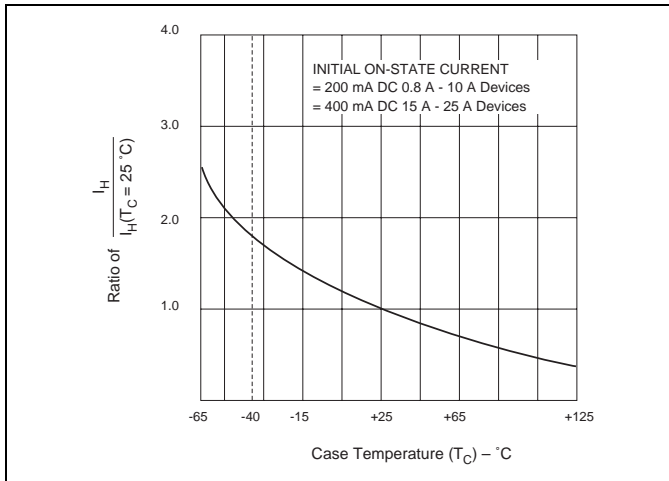

Figure E2.14 Normalized DC Holding Current versus Case Temperature
- (8) See Figure E2.14 for IH versus TC.